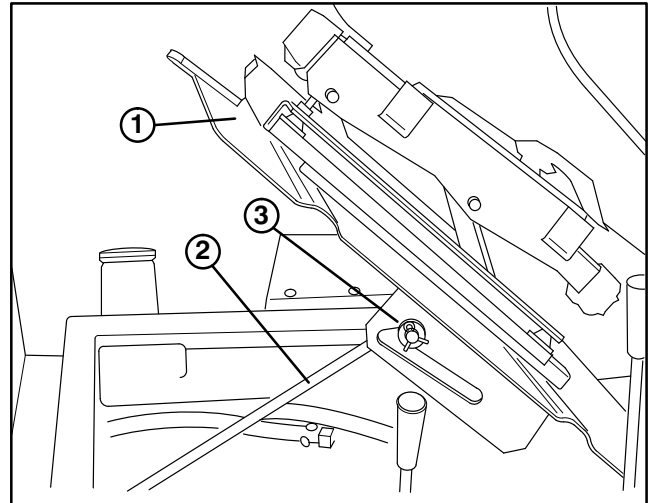

Figure 3
3. Pivot seat forward and insert end of support rod into slot in locking plate. Secure rod to plate with a flat washer and 1/8 x 1" lg. cotter pin (Fig. 3).